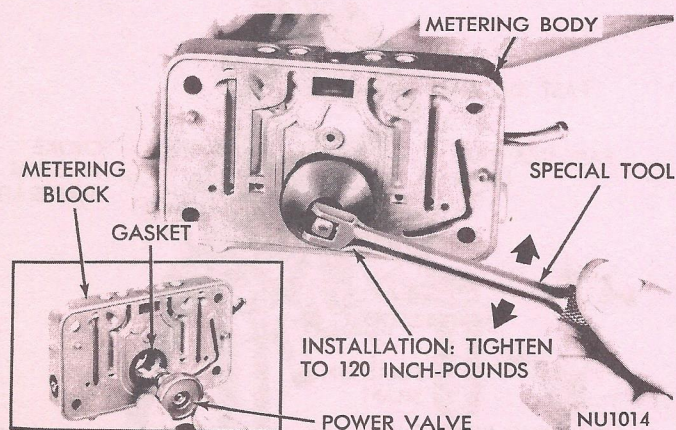

Fig. 15—Removing or Installing Power Valve
- (2) Slide a new gasket over power valve and install in body. Using Tool C-3748, Tighten to 120 inch pounds (Fig. 15).
- (3) Press a new gasket in each of the idle air mixture ports, then thread idle air mixture screws through gasket and into body, using a small screwdriver. Lightly seat screws, then back off number of